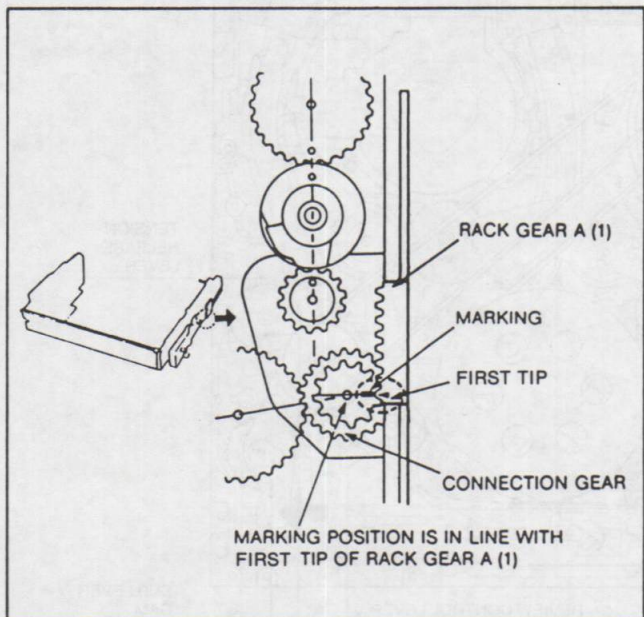

Fig. A24
6. Reinstall the cassette compartment (without Cassette Holder) to chassis so that the first tip of Rack Gear A (1) comes to Marking Slot of Connection Gear as shown in Fig.A24.